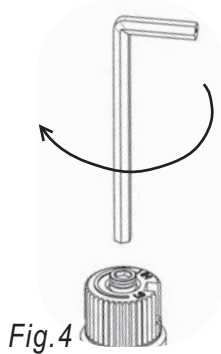

Fig. 4
- 14) Using the Allen wrench as shown in Fig.4, rotate the screw clockwise until snug, do not overtighten.